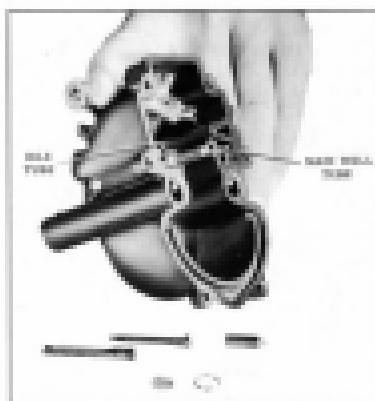

Fig. 291. Removing Main Well Tubes.
5. Turn bowl upside down and two kidney-shaped main well tubes, two idle tubes, and brass needle pump safety check should drop from bowl. (See Fig. 291.)